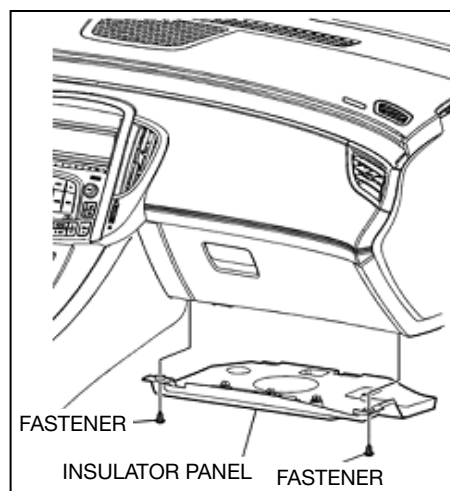

Fig. 18
2. Remove instrument panel insulator fasteners and panel (see Fig. 18).